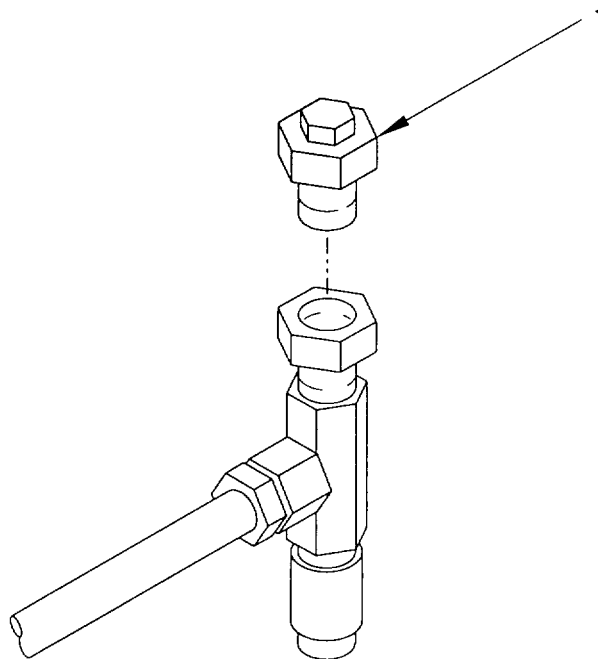

Figure 2-37. Safety Outlet, Fire Suppression System, Remove/Install
a. Remove. (figure 2-37)
b. Install. (figure 2-37)